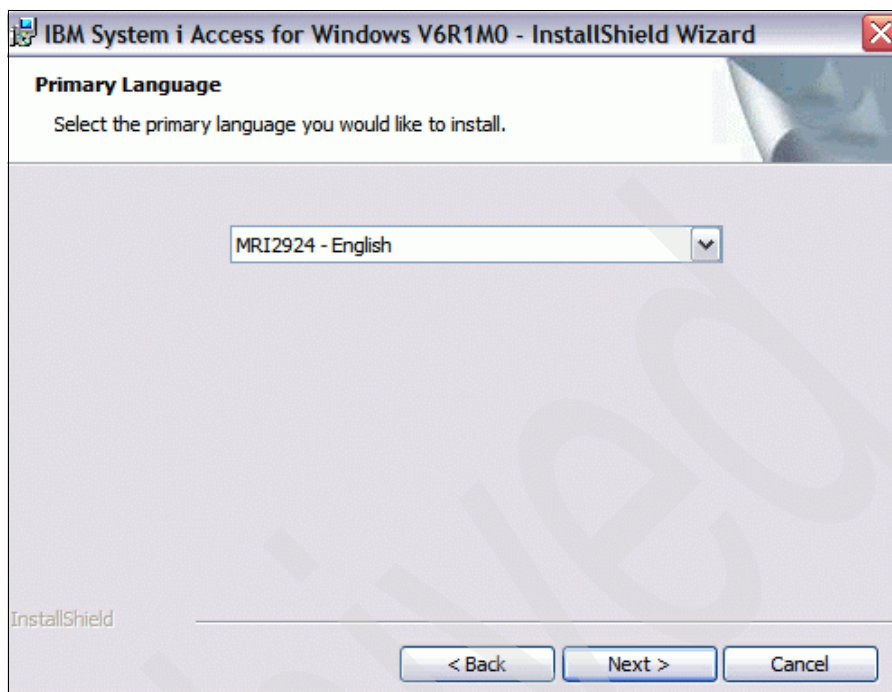

Figure 7-14 IBM System i Access for Windows Primary language
5. Depending on the native language, a selection can be made in the following window as shown in Figure 7-14 on page 258. Normally, you would select the same language as the language for the IBM i V6.1 operating system.